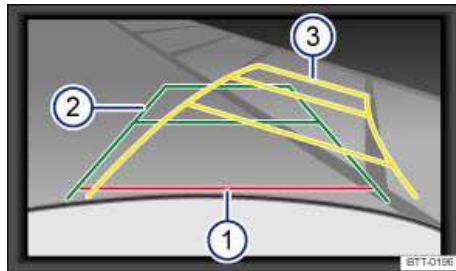

Fig. 156 On the screen: Orientation lines of the parking area behind the vehicle.
Switch on the display automatically:	Shift into Reverse (R) with ignition switched on or engine running. Mode 1 is displayed ⇒ fig. 156 .
Meaning of the orientation lines projected on the screen ⇒ fig. 156. All distances of the orientation lines refer to a vehicle on a level surface.